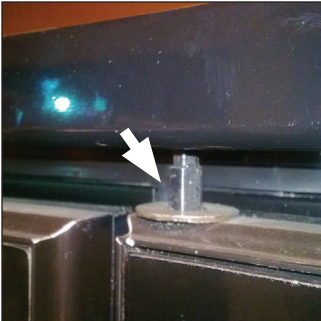

Fig 3.1 Torsion rod hinge pin.
1. To release the torsion, secure the supplied Hillphoenix door tool on the widest part of the torsion rod's hinge pin (Fig 3.1). You may also use an 11/32" wrench if preferred. Turn the hinge pin in the direction of the door handle, just enough to disengage the torsion wheel from the spring button.